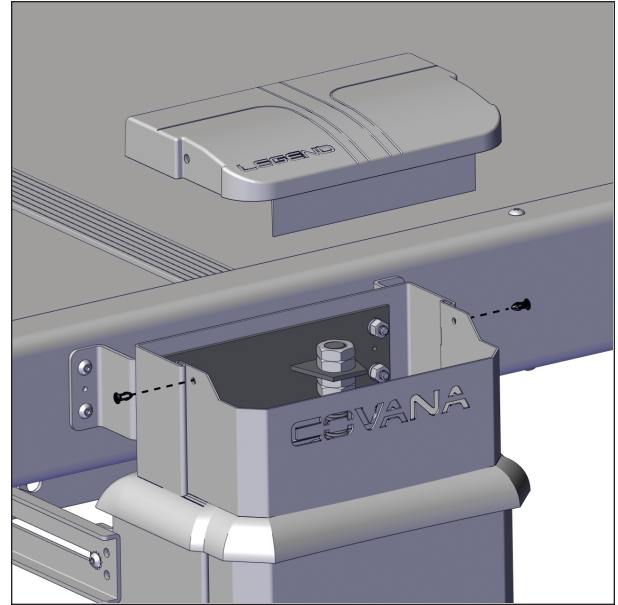

FIGURE 107: TOP PLATE REMOVAL
2. Remove both push-in rivets on the top plate of each post, see Figure 107. Keep the top plates and the rivets in a safe location.